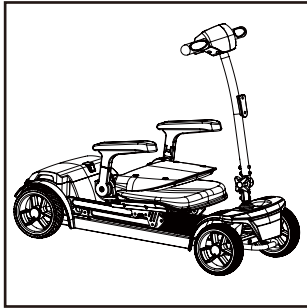

Figure 10 : Folded Seat on Footrest
2. Fold the Seat: Smoothly fold the seat forward and place it securely on the footrest. Ensure it sits stably (see figure 10) .